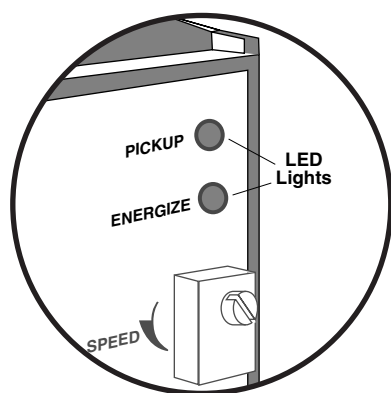

Figure 13
2. Turn the **SPEED ADJUST** pot fully clockwise 20 turns (**Figure 13**).
3. Run the engine at the desired RPM and adjust the **SPEED ADJUST** pot counterclockwise until the **ENERGIZE** LED comes “ON” and the relay has transferred (**Figure 13**).